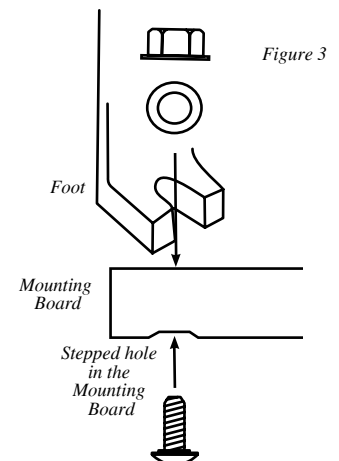

Figure 3
3. Secure the **Mounting Board** to the **Feet** with the **Carriage Bolts**, **Flat Washers** and **Hex Flange Nuts** (Figure 3). Use a 10-mm wrench or adjustable wrench to tighten the **Hex Flange Nuts**.